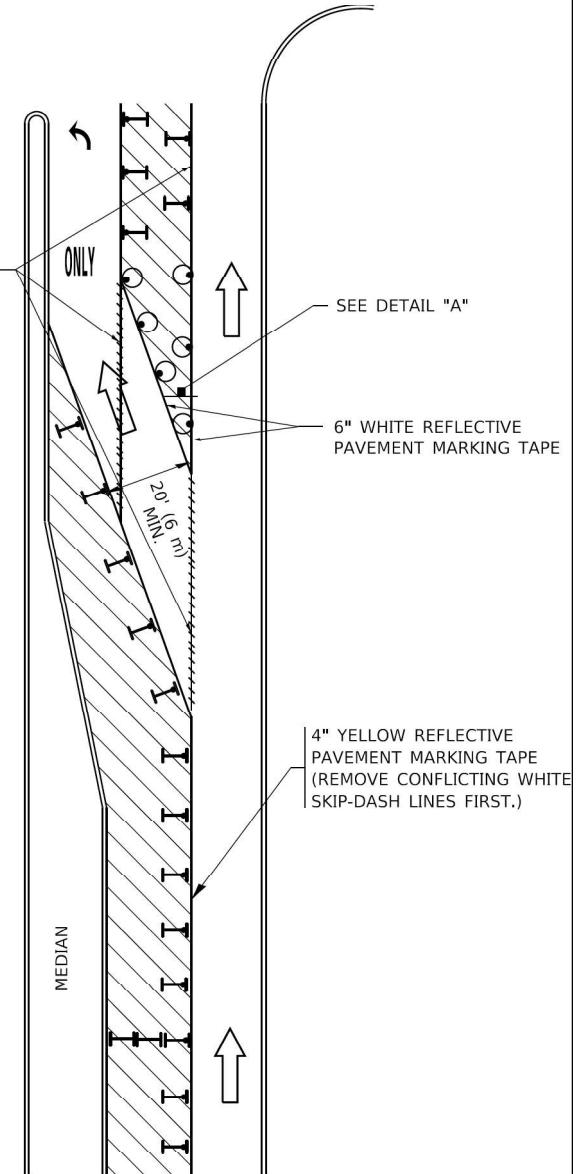

FIGURE 2
B) WHEN "L" IS $>$ THE STORAGE LENGTH OF THE TURN LANE OR THE TURN LANE IS WITHIN THE LANE CLOSURE, USE FIGURE 2.
2. CONES MAY BE SUBSTITUTED FOR BARRICADES OR DRUMS AT HALF THE SPACING DURING DAY OPERATIONS. CONES SHALL BE A MINIMUM OF 28 (710) IN HEIGHT.
4. REFLECTIVE TEMPORARY PAVEMENT MARKINGS SHALL BE PLACED THROUGHOUT THE BARRICADED AREAS OF EACH TURN BAY AS SHOWN WHERE THE CLOSURE TIME IS GREATER THAN FOURTEEN (14) DAYS.
5. THIS APPLICATION ALSO APPLIES WHEN WORK IS BEING PERFORMED IN THE RIGHT LANE(S) AND THE RIGHT TURN BAY IS TO REMAIN OPEN. UNDER THIS CONDITION, "RIGHT TURN LANE" R3-J100R 24 x 24 (600 x 600) AND M6-2R 21 x 15 (530 x 380) SHALL BE USED.